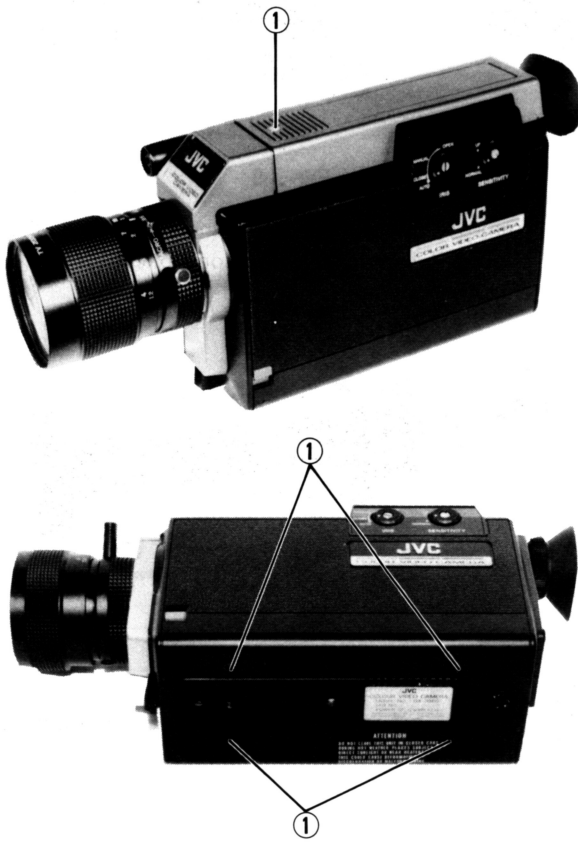

Fig. 3-1
1. Remove five screws ① from the cabinet as shown in Fig. 3-1.